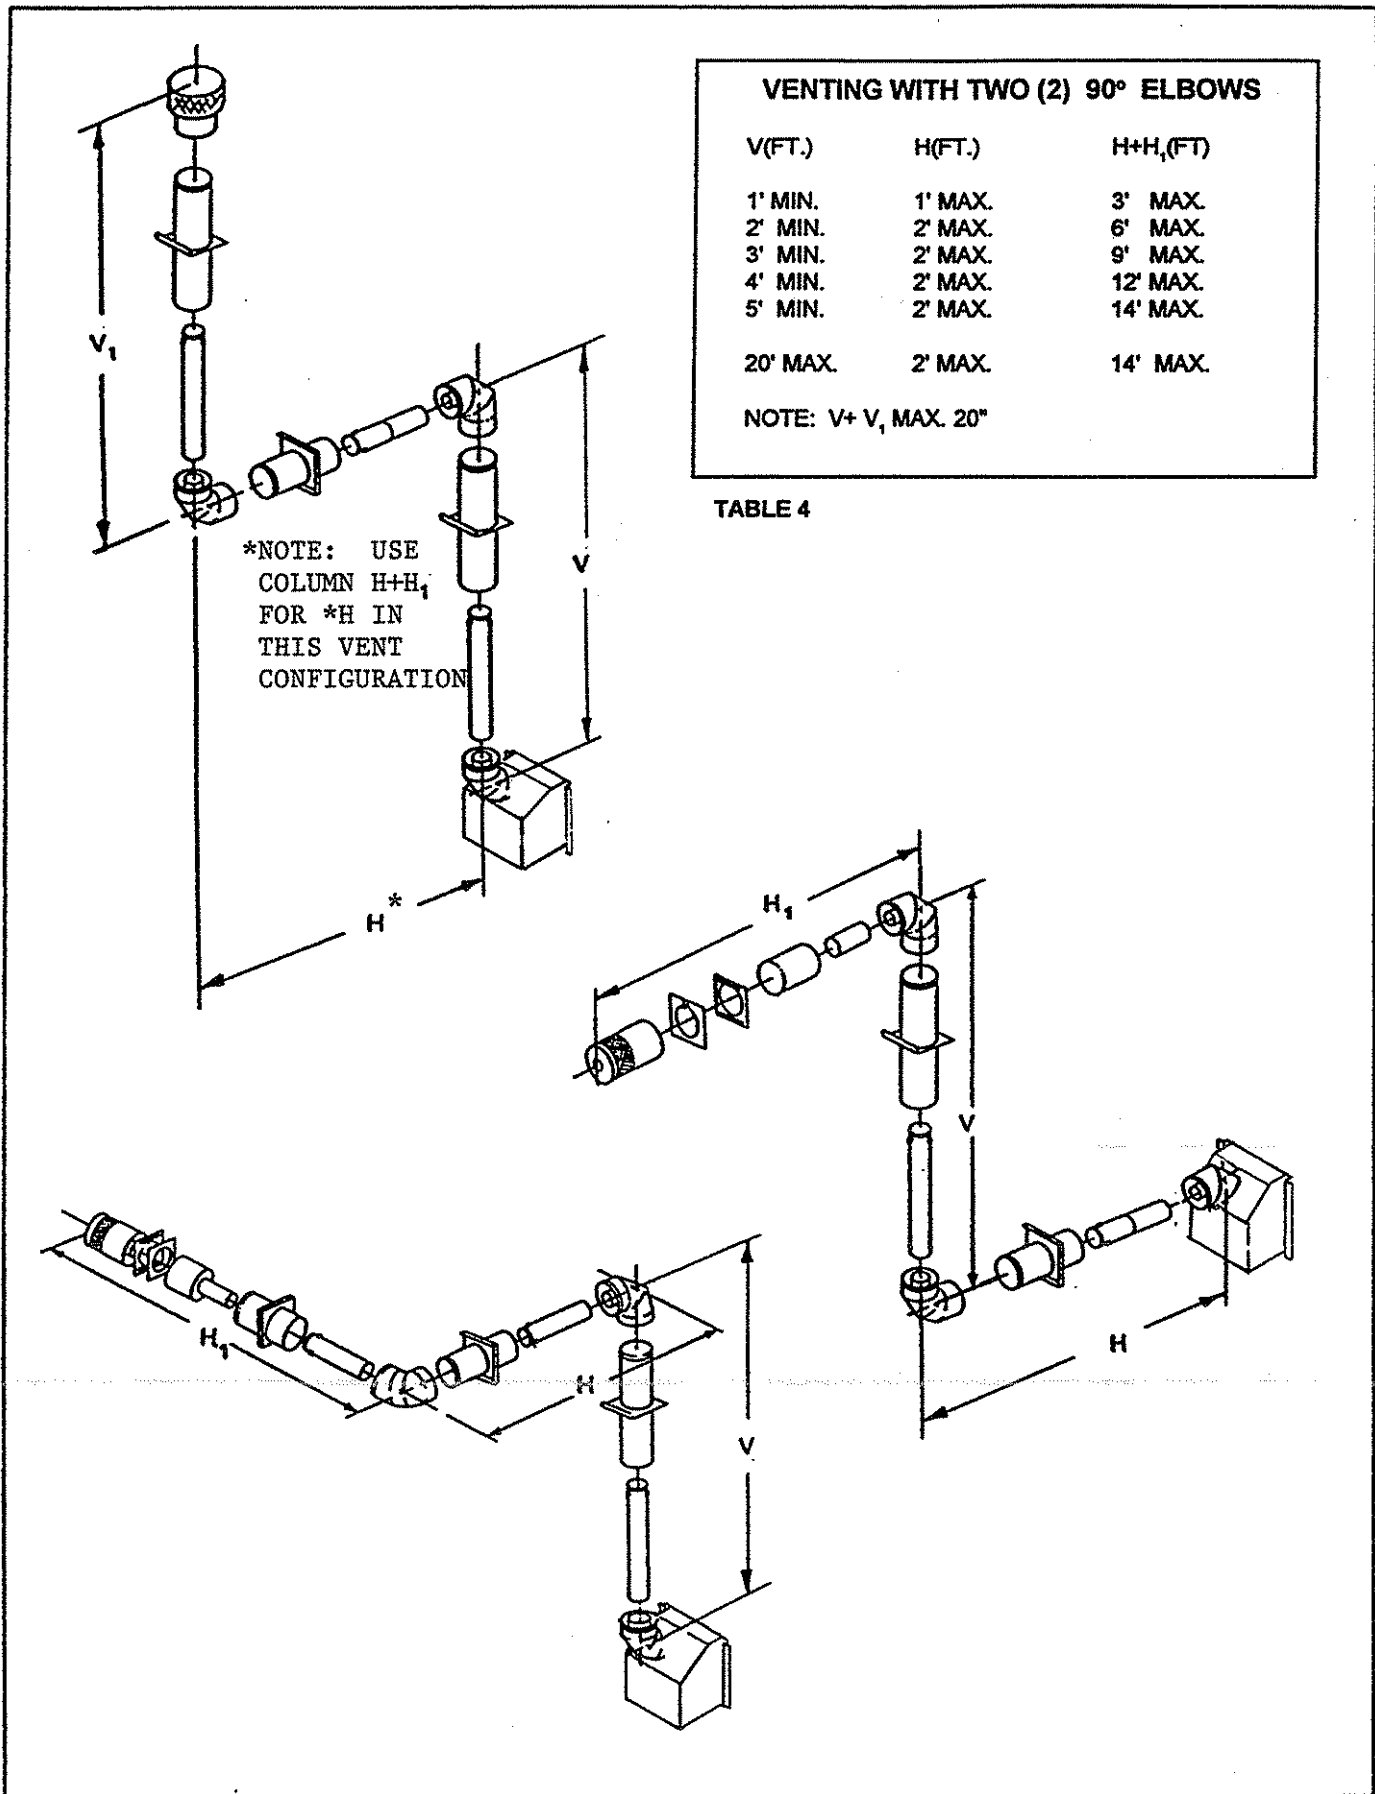

FIGURE 9
Figure 9 and Table 4 show examples of possible installations using two (2) 90-degree elbows. Dimension V is listed as **MINIMUM** vertical dimensions, dimension H is listed as **MAXIMUM** beginning horizontal dimensions, and dimension H+H1 is listed as corresponding **TOTAL MAXIMUM** horizontal dimensions. Vertical dimensions are based on centerline to centerline of pipe. Horizontal dimensions H are based on back of unit to centerline of pipe. Horizontal dimensions H1 are based on centerline of pipe to end of termination.